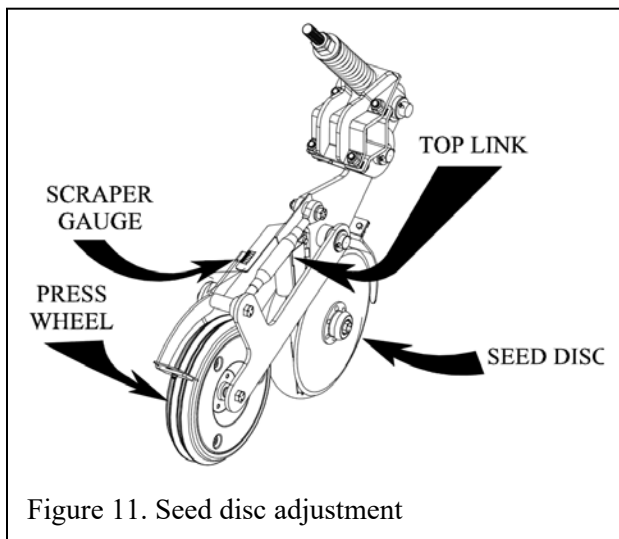

Figure 11. Seed disc adjustment
5. Measure the results of the test. For drastic changes, the gauge wheels can be further adjusted, but for small depth adjustments, the Top Link (Figure 11) on each seed disc assembly can be rotated to lift or lower the seed within the trench made. The Scraper Gauge is used as a point of reference.